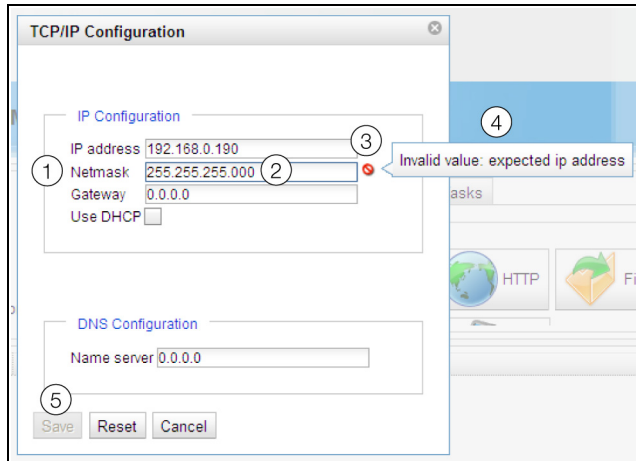

Fig. 30: Display of an incorrect input
- A red "prohibition symbol" (fig. 30, pos. 3) appears behind the incorrect entry (fig. 30, pos. 2) in the **Netmask** (fig. 30, pos. 1) field.
- If you place the mouse pointer over the prohibition flag, a notice with additional information about the error appears (fig. 30, pos. 4).
- Because the **Save** button is deactivated (fig. 30, pos. 5), the currently specified values cannot be saved.